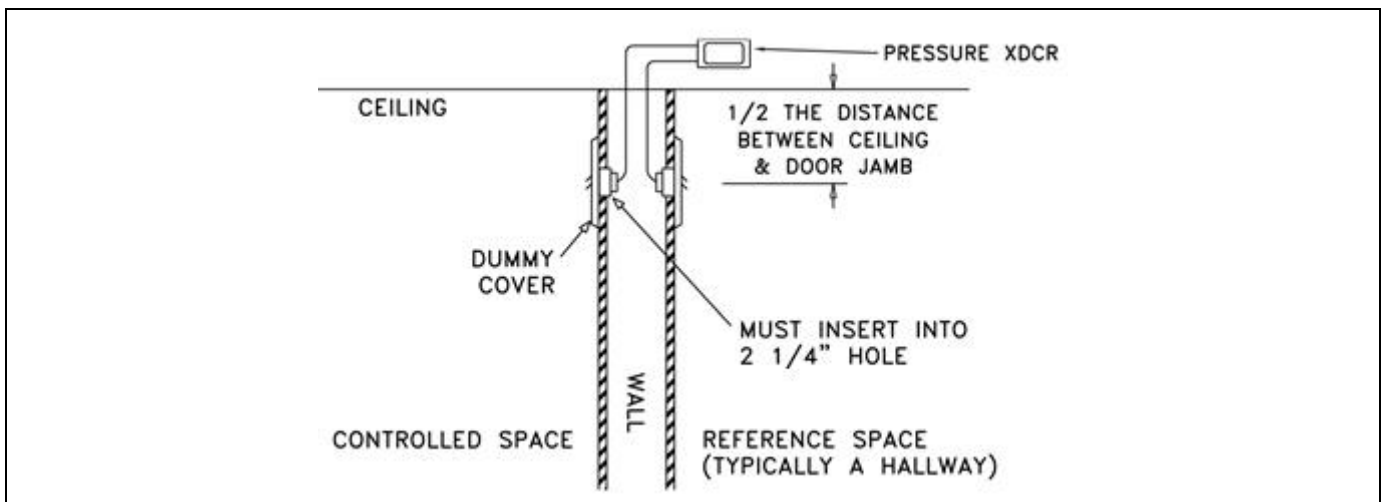
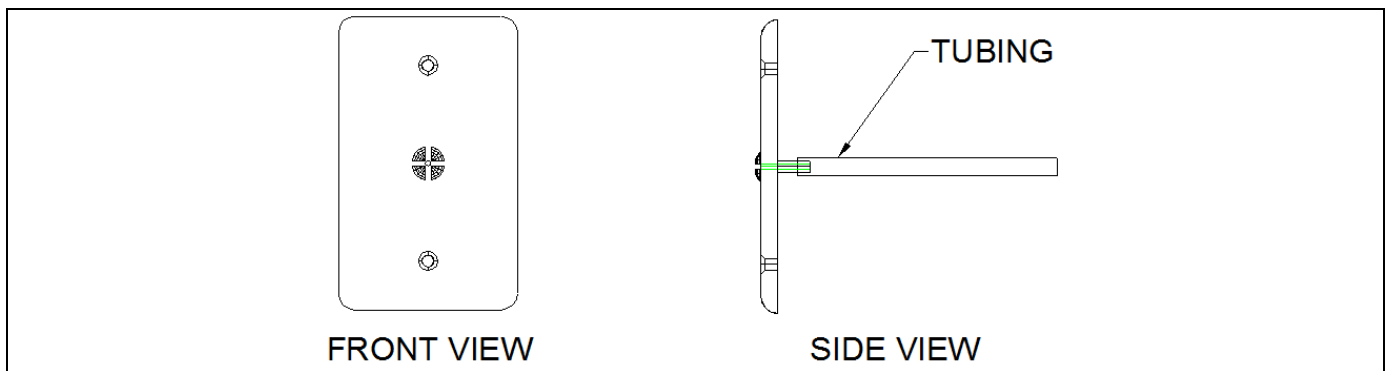

Figure 5: Cutaway View of Mounted Pressure Transducer Assembly
Figure 6: Pressure Transducer Mounting Plate
801913 pressure plates must be mounted in the wall between the controlled space (clean room) and referenced space (hallway), exactly as shown in Figure 5 and Figure 6. This installation is not representative of the through penetrating product tested under UL.
- Install pressure transducer in desired location (typically above ceiling). The transducer must be mounted on a wall in the correct position per Figure 5 (screws not provided). **DO NOT** mount pressure transducer to duct or other vibrating surface.
- Determine pressure sensor location (Figure 1, Figure 5 and Figure 6). Pressure sensor typically mounts in the reference space, and the plate mounts in the clean room.
- Insert the pressure plate into the hole in the wall. Screw the pressure plate to the wall. The finished assembly should look like Figure 5.